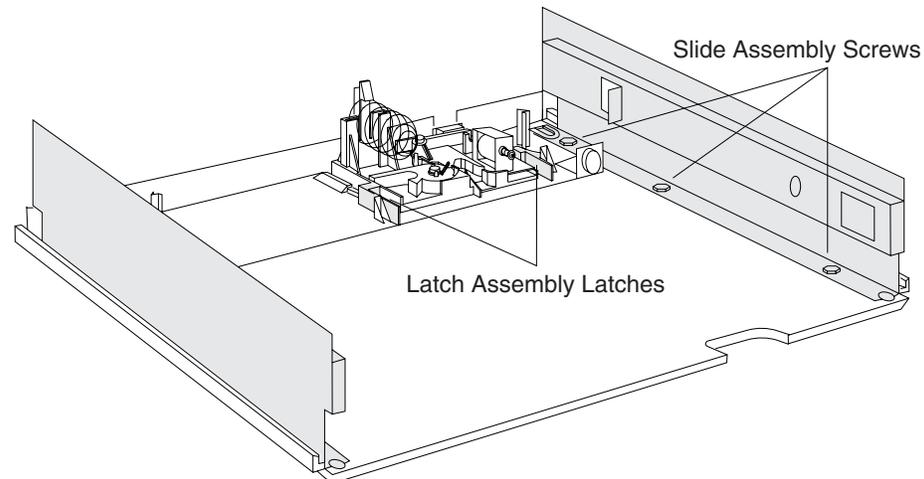

Figure 3. Cash drawer slide assembly
4. Remove the three screws that secure the slide to the base, and lift the slide assembly out (see Figure 3 on page 8).